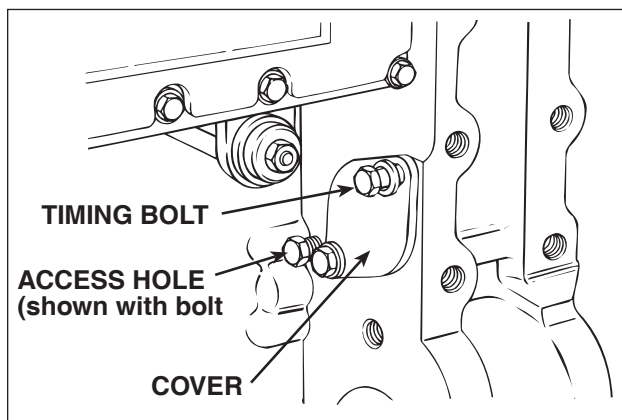

FIG. 1
2. Remove the plug bolt from the timing access hole above the left side starter location (see Fig. 1).
3. Remove the timing bolt from its storage location as shown in Figure 1. Insert the timing bolt into the access hole.